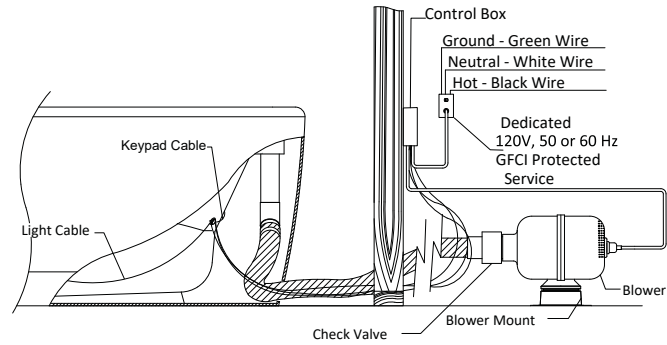

Figure 8a - Above Floor Installation
10. During installation if it is preferred to run the blower hose on top of the floor, a 2-1/2" [6.35cm] diameter holes can be drilled at the bottom of the skirt. A means to cover the hole, hose and wires is not provided. See **Figure 8a**